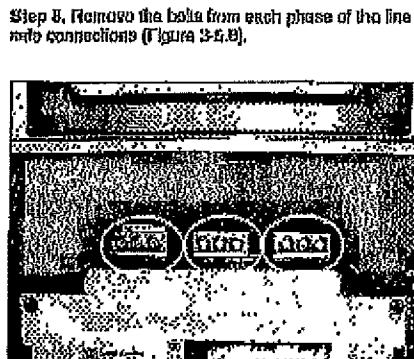

Figure 3-5.8
Step 8. Remove the bala from each phase of the line into connections (Figure 3-5.8).